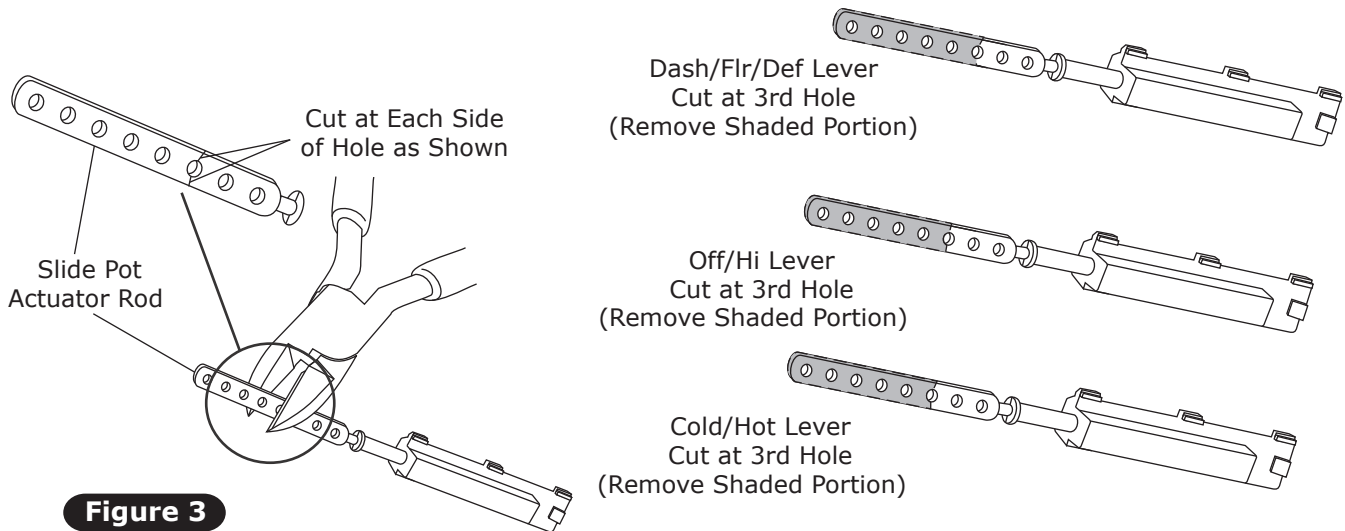

Figure 3
1. Locate the three slide pot assemblies. Using a pair of wire cutters, cut slide pot actuator rods as shown in Figure 3, below.